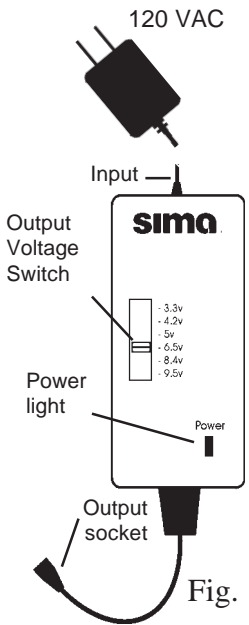

Fig. 1
- Set the output voltage switch, as illustrated in Fig. 1, to the desired output for your device. Choose from the following settings: 3.3 / 4.2 / 5.0 / 6.5 / 8.4 or 9.5 V.